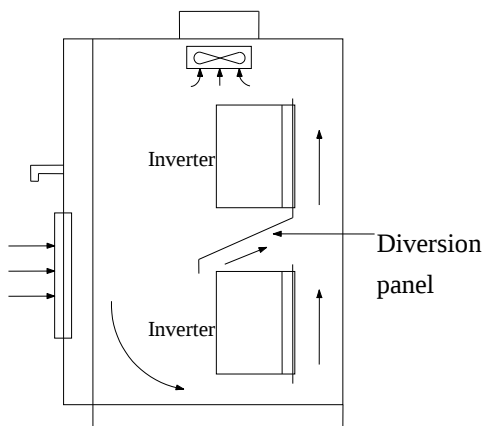

Fig 2-2. Installation of multi-inverter
- When several inverters are mounted up and down, air diversion plate should be fixed in the middle as shown in Fig. 2-2.